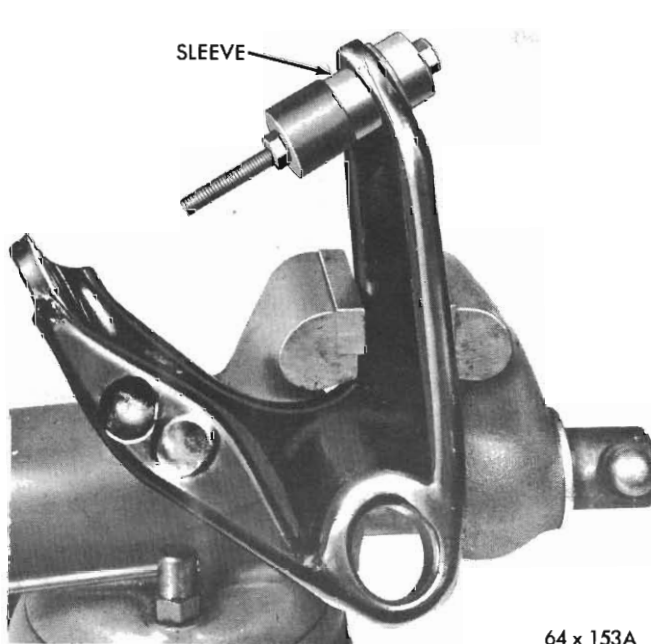

Fig. 19 - Installing upper control arm bushing (Tool E2C25A)
(1) Position the flange end of new bushing in Tool E2C25A, support the control arm squarely, and force bushing into control arm (from outside) until tapered portion of bushing seats on arm (Fig. 19).